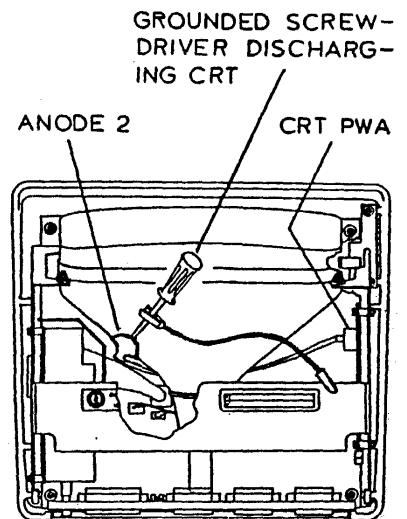

Figure 3-2 DISCHARGE CRT
3. Discharge high voltage on CRT (anode 2) shorting to frame. This is done by using meter lead, alligator clip, and screw driver as shown in fig. 3-2.
4. Discharge high voltage on CRT (anode shorting to frame. (fig. 3-2)
6. If 820/820-II then remove (2) attaching support block for Daughter PWA. Remove Daughter PWA from processor.
7. Remove (4) screws from the processor and remove by sliding out of the processor.